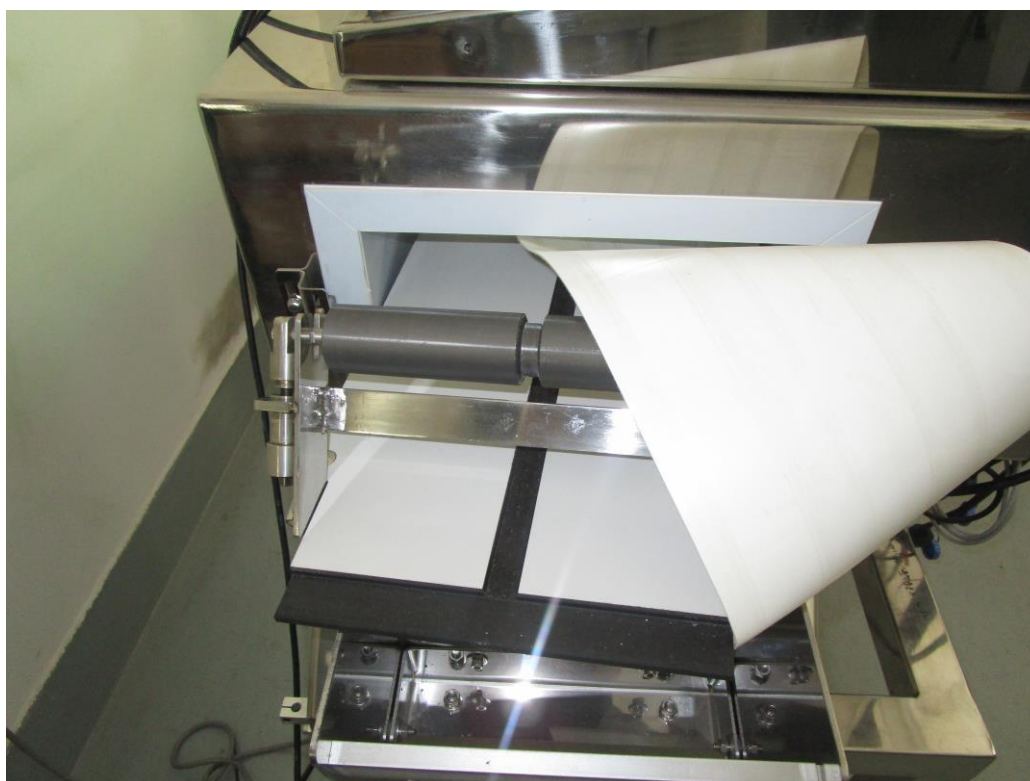

Figure 4-4 Separate the conveyor belt and take out the table
4) From the driven roller side, separate the conveyor belt from any side and take out the table (Figure 4-4).